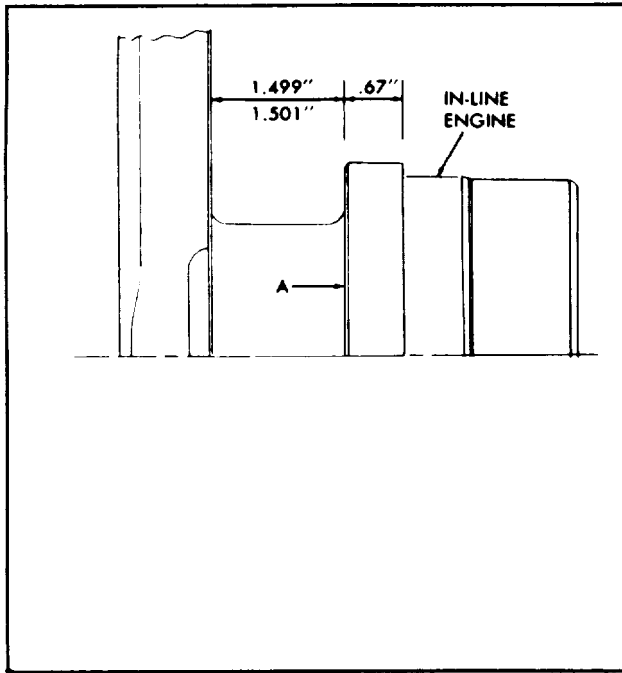

Fig. 10 . Standard Dimensions at Crankshaft Thrust Surfaces-In-Line Engines
6. If the thrust surfaces of the crankshaft (Fig. 10) are worn or grooved excessively, they must be reground and polished. Care must be taken to leave a .130" to .160" radius on the In-line crankshaft between each thrust surface and the bearing journal.
**NOTE:** If the crankshaft thrust surfaces were reground, it may be necessary to install oversize thrust washers on one or both sides of the rear main journal. Refer to Fig. 10 and Table 2.